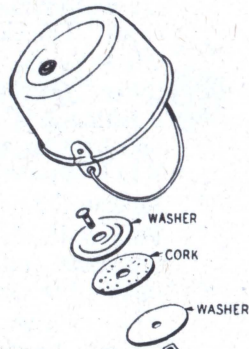

Fig. 56
**Remedy:** Repair with aluminum patch that can usually be purchased at hardware or dime stores. Fig. 56. Some utensils can be soldered.